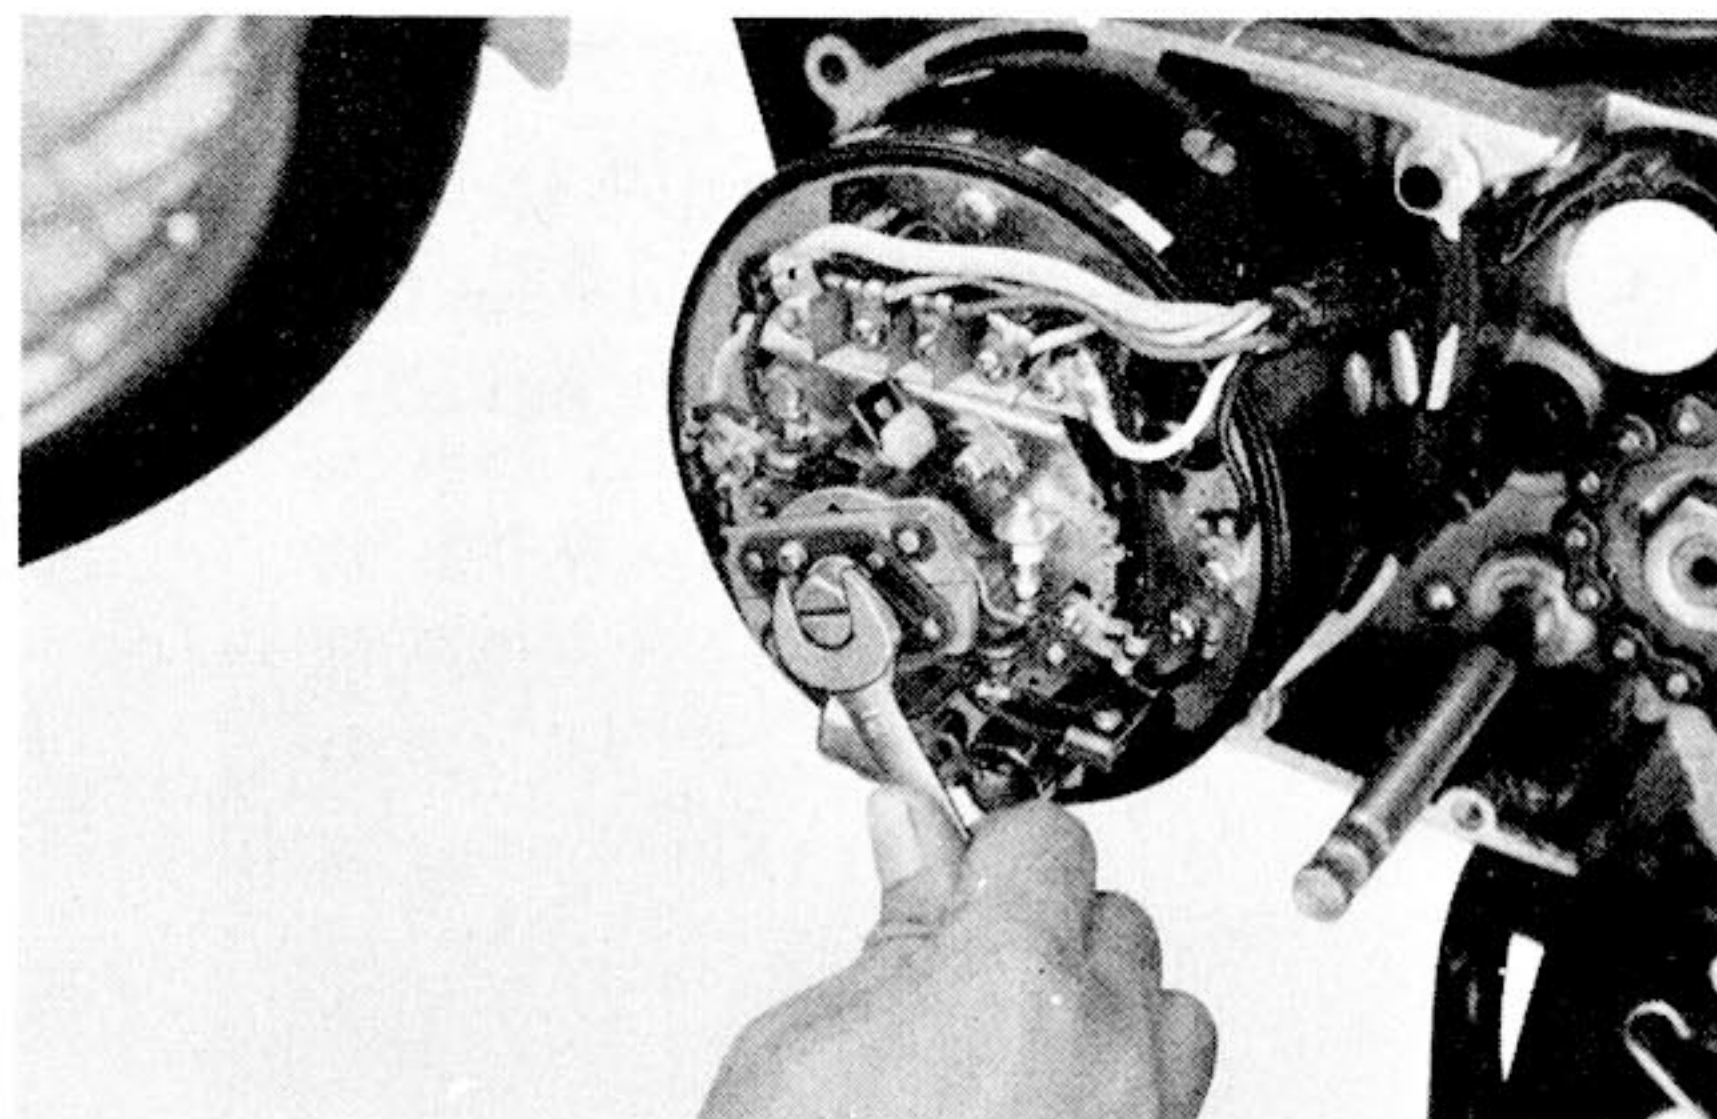

Fig. 6-5-13
- (2) Adjust ignition timing separately for the right and left cylinders.
- (3) Rotate the armature until the points are at their widest opening. Adjust point gap with a feeler gauge to 0.30 ~ 0.40 mm (0.011~0.016 in.). Repeat this procedure for each set of points. (Fig. 6-5-13)